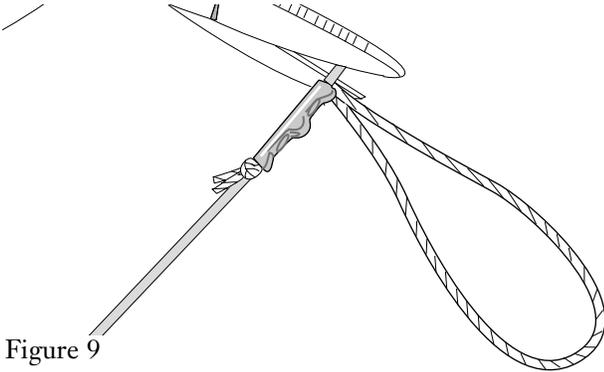

Figure 9
5.6 If necessary, trim the end of the cable to within 1/8 inch (3 mm) of the crimp part to avoid snagging on the micro-duct wall. Use care not to damage the pull line (Figure 9).